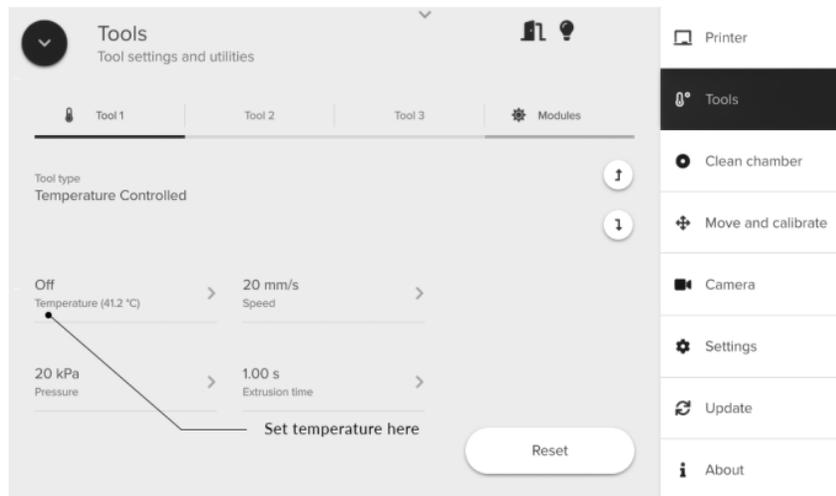

Figure 6: Preset temperature for the Temperature-controlled Printhead.
- Set a temperature in the BIO X software using the Utilities menu and Tools submenu. When cooling, the operating temperature range of the Temperature-controlled Printhead has a maximum of 17 degrees below the chamber temperature; when heating, the maximum temperature is 65 degrees (Figure 6).